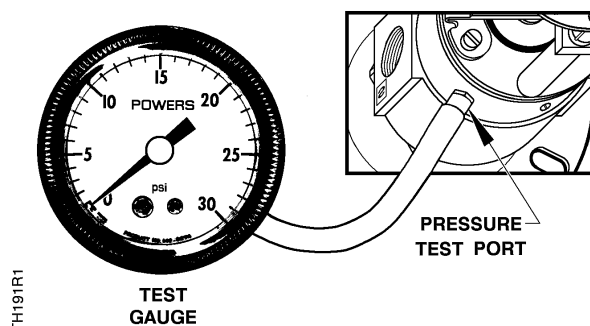

Figure 9. Using the Pressure Test Port.
4. Loosen the test port screw about 1/2 turn and slip a 3/16-inch ID rubber hose connected to the test gauge over the pressure test port. See Figure 9.